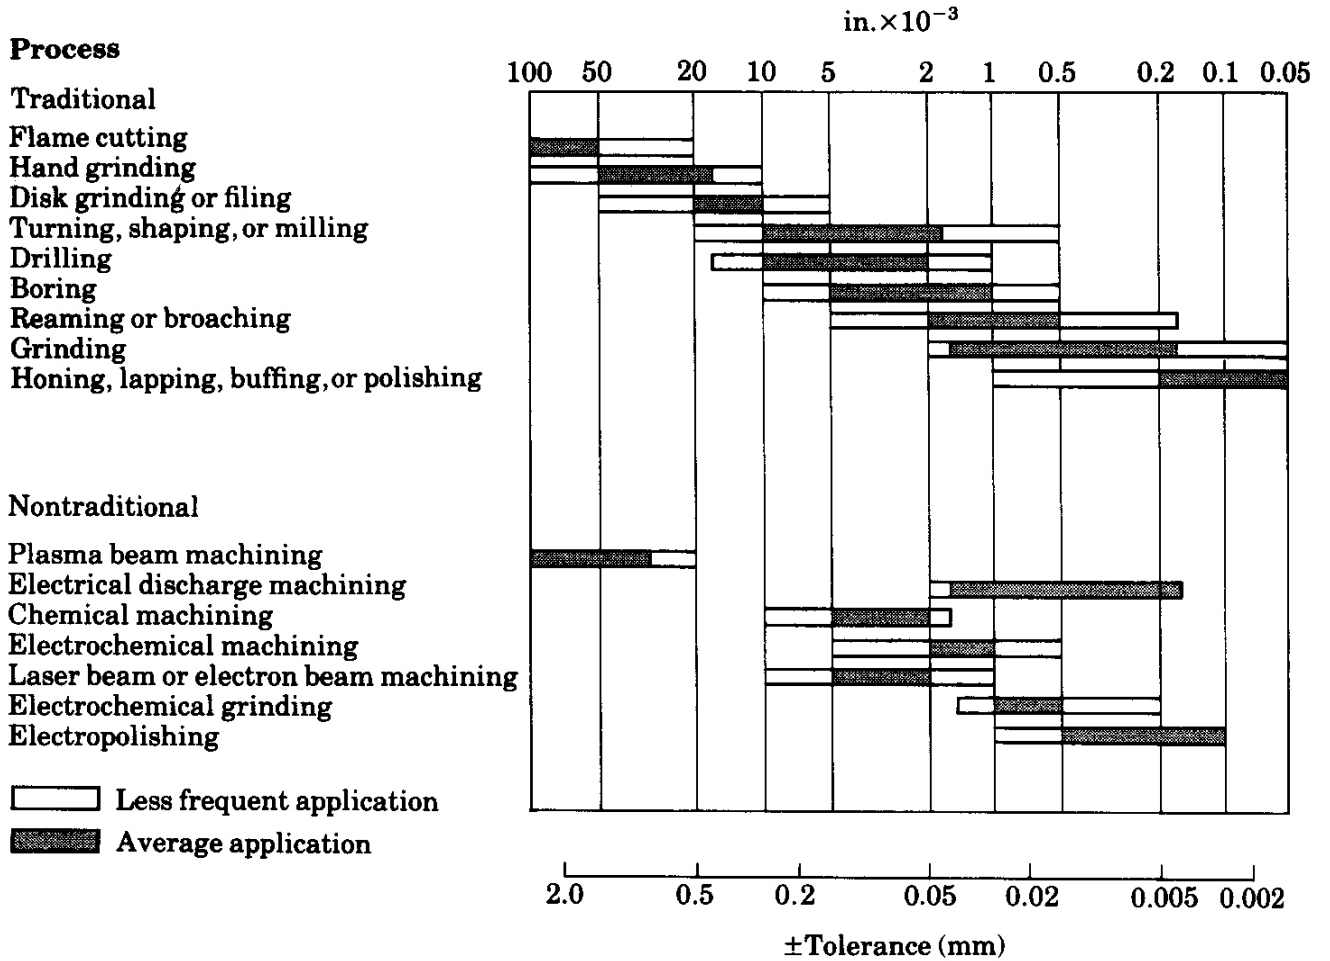

FIGURE 15.5 Tolerances produced by various processes.
Figure 15.5 presents a collection of the most common manufacturing processes and the tolerances commonly associated with each of them. As explained in the legend, the shaded portions of the bars represent the average application of these processes and mean virtually any manufacturing shop should be able to achieve these tolerances. The remaining portion of the bar indicates the less frequent application, which means one of two things: (1) highly skilled operators and equipment in excellent condition are required to obtain the tolerances on the higher precision end of the range or (2) the process can easily achieve the tolerances on the lower precision end of the range, but a cheaper alternative likely exists, which could significantly reduce part cost.